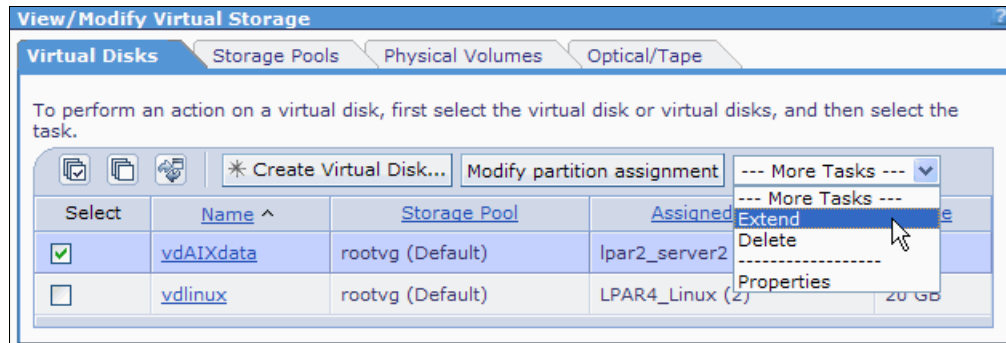

Figure 4-93 Extending virtual disks
- From the Virtual Storage Management menu in the IVM navigation area, click **View/Modify Virtual Storage**. From the work area, select the **Virtual Disks** tab. Then, **Select** the virtual disk that you want to extend, and choose **Extend** in the **More Tasks** drop-down menu. See Figure 4-93.